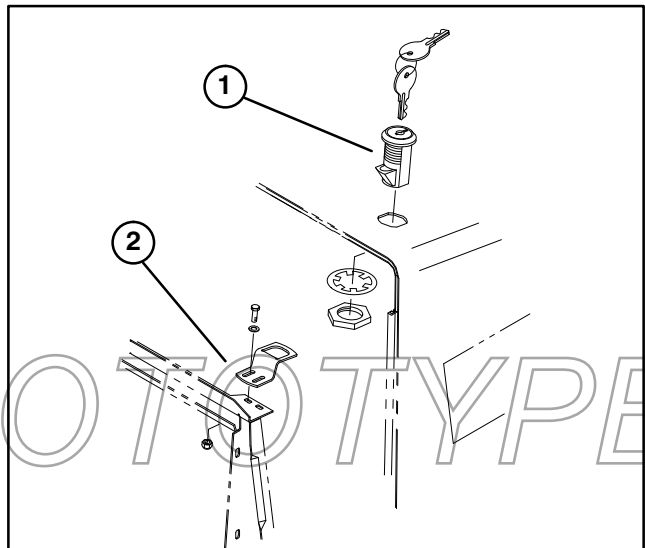

Figure 3
3. Mount locking switch to hood with lock washer and nut. Position switch with latch toward front of machine (Fig. 3).
4. Loosely mount latch bracket to radiator support with (2) 1/4-20 x 3/4" lg. cap screws, flat washers and locknuts (Fig. 3).